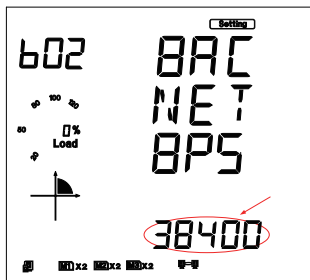

Fig 5-90
d). Set Baud Rate in the second setting page, such as 38400. The module can support the baud rate such as 9600, 19200, 38400, 76800. Press the "V/A" key to go to the setting page. Users may set the parameters pointed out in Figure 5-90. After setting the BACnet MS/TP Baud rate, press the "V/A" key to accept. Press the "P" key to go to the third setting page for the MAX INFO FRAM.